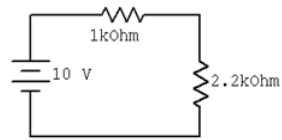

Figure 1
1. The theoretical current of Figure 1 may be found by dividing the power supply voltage by the sum of the two resistors. This should be the same everywhere in the circuit. Compute this value and record it in the first column of Table 1.
2. Set the DC power supply to 10 volts. Construct the circuit of Figure 1.